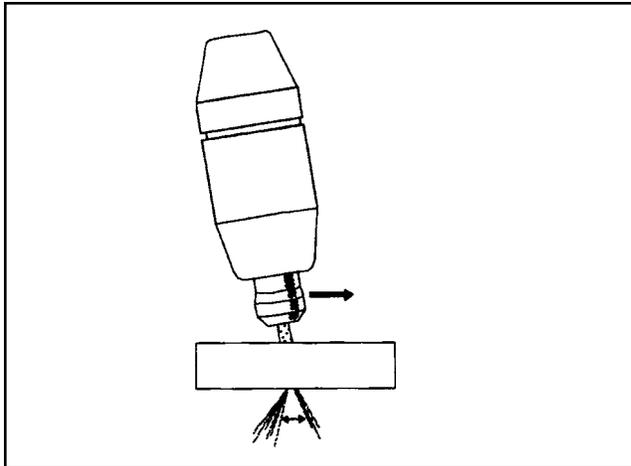

Figure 4-2. Recommended Torch Angle of 5° to 15°
- D. After starting the cut, the torch should be maintained at a 5-15° forward angle (Figure 4-2). This angle is especially useful in helping to create a "drop" cut. When not using the standoff guide, the nozzle should be held approximately 1/4 inch from the work.